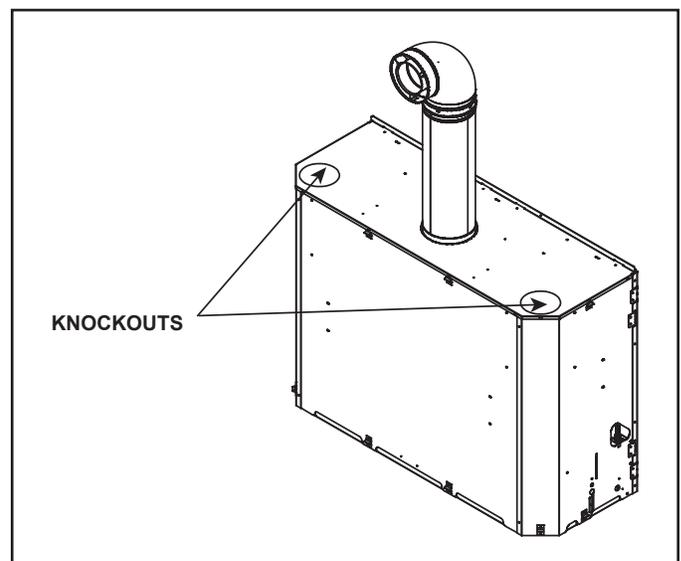

Figure 8.6 Heat Zone® Knockouts
- Remove the knockouts from the top of the appliance and discard them (see Figure 8.6).